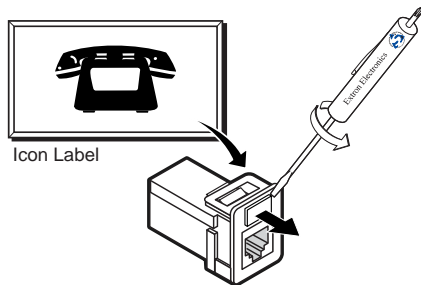

Figure 3-4 — Changing the connector icon
7. Snap a replacement bezel in place. If necessary, replace the connector icon by prying the old icon off of the connector plug-in with a Tweezer (figure 3-4) and snapping a new icon in place.